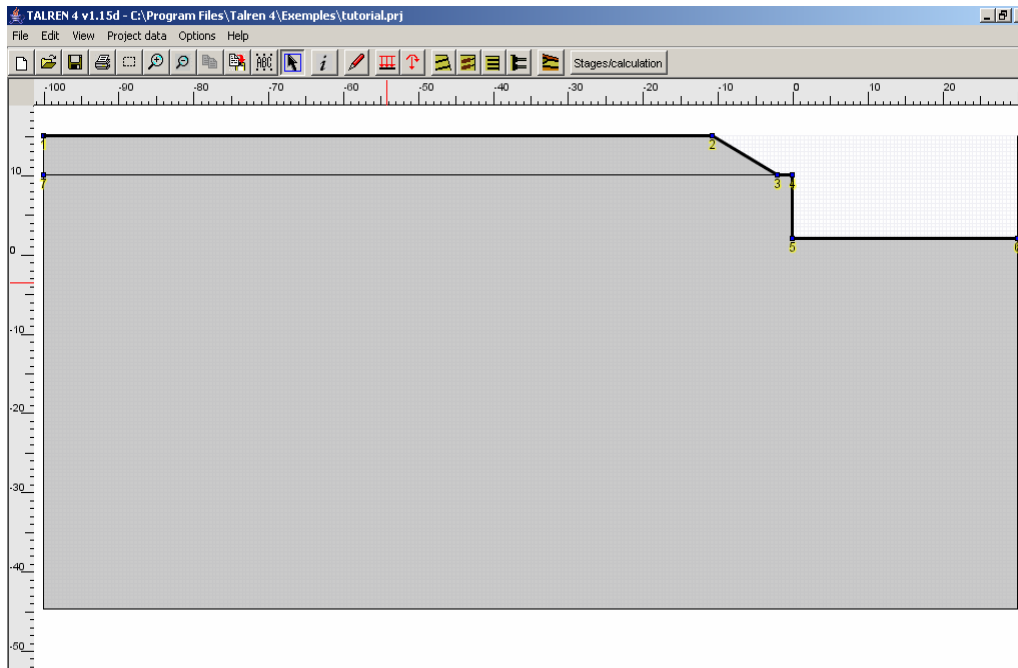

Figure 8: graphical view after geometry definition
- In order to draw the geometry with the mouse, select the toolbar button . Click on the first point of the geometry to draw (using the horizontal and vertical rulers, and the mouse coordinates displayed in the status bar), then move the mouse, without releasing the button, to a 2nd point. When the button of the mouse is released, the 2nd point and the segment between both points are created. To define points without connecting them with segments, simply click on the points and release the mouse button after each click. The purpose is to obtain the same layout as in Figure 8.